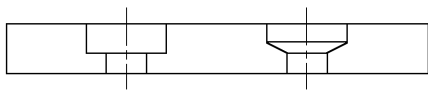

Fig. 8
- 4.3.6.2 Refer to Figure 8 and carefully examine the counterbored holes in the new friction disc. One set of counterbored holes is tapered and designed to accept the rivet head, while the other set of counterbored holes is flat-bottomed and designed to accept the clinched end of the rivet.